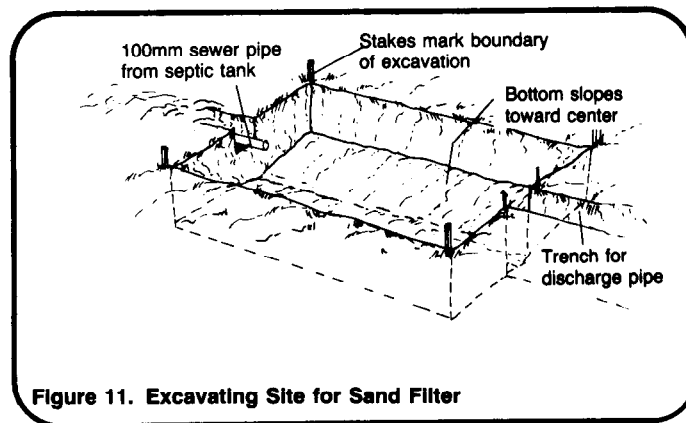

Figure 11. Excavating Site for Sand Filter
2. Excavating the System. Dig the trenchline from the septic tank to the site and excavate the site to the design depth. Make the bottom of the excavation slope toward the center. Dig the trenchline for the discharge pipe. Lay 100mm diameter sewer pipe from the septic tank to the site and from the site to the point of discharge. Cover with soil and carefully tamp. See Figure 11.